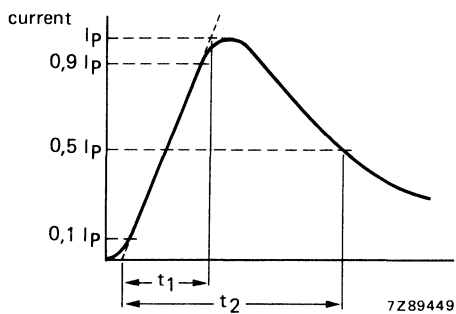

Fig. 5.
6. High energy surges are generally of longer duration. The max. energy for 1 impulse 10/1000 μs is given as a reference for long duration impulses. This impulse can be characterized by peak current I_p and impulse width t_2 (virtual time to half I_p value, defined in IEC 60-2 section 6), see Fig. 5. If V_p is the clamping voltage corresponding to I_p , the energy absorbed in the VDR is determined by equation $E = K \cdot V_p \cdot I_p \cdot t_2$; K depends on t_2 . When t_1 is 8 to 10 μs and $t_2 = 20 \mu\text{s}$, $K = 1$; when $t_2 = 50 \mu\text{s}$, $K = 1,2$; when $t_2 = 100 \mu\text{s}$, $K = 1,3$; when $t_2 = 1000 \mu\text{s}$, $K = 1,4$.